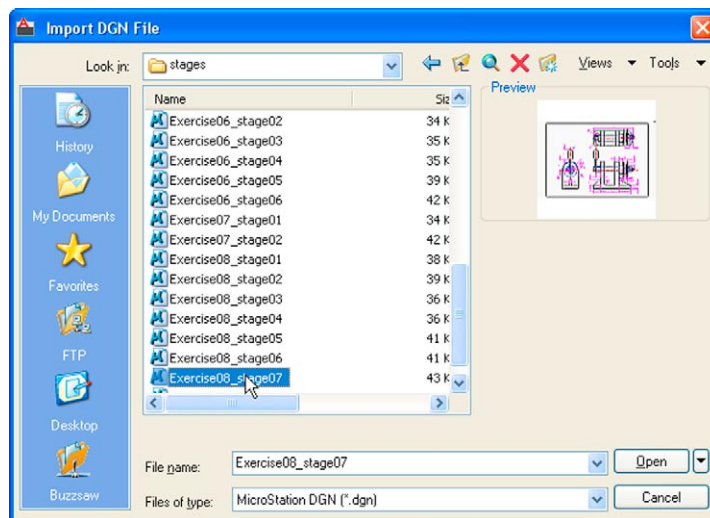
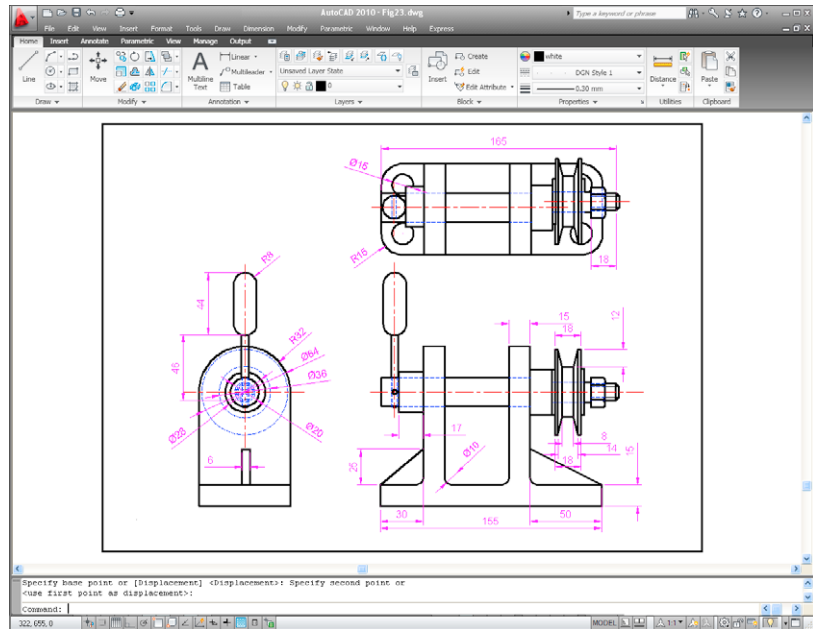

Fig. 10.21 The Import DGN File dialog
Fig. 10.22 The *.dgn file imported into AutoCAD 2011
2. In AutoCAD 2011 at the command line *enter* **dgnimport**. The dialog Fig. 10.21 appears on screen from which the required drawing file name can be selected. When the **Open** button of the dialog is *clicked* a warning window appears informing the operator of steps to take in order to load the drawing. When completed the drawing loads Fig. 10.22).